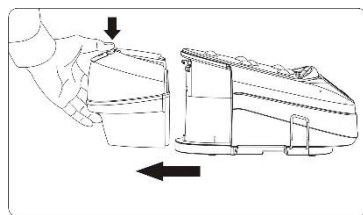

Fig 1
2. Press the water tank release button and pull out the water tank, see Fig 1